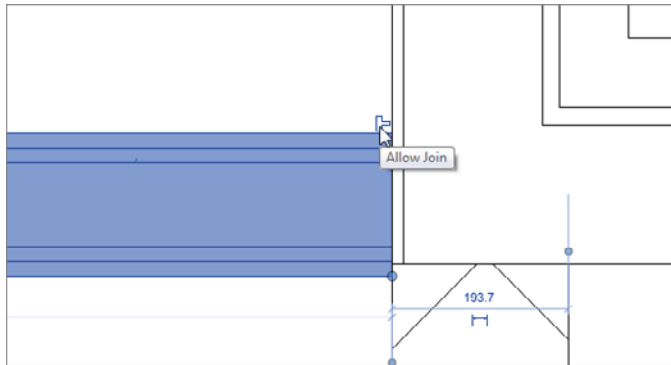

FIGURE 2.58 Allowing the walls to join back again
5. After the wall is unjoined, you can pick the same blue grip and slide the wall back to where you want it to terminate. Of course, you have to do this manually (see Figure 2.58).
7. Notice that there is an additional blue T-shaped icon. Hover your cursor over this icon; you can pick it to allow the walls to join back up, as shown in Figure 2.58.